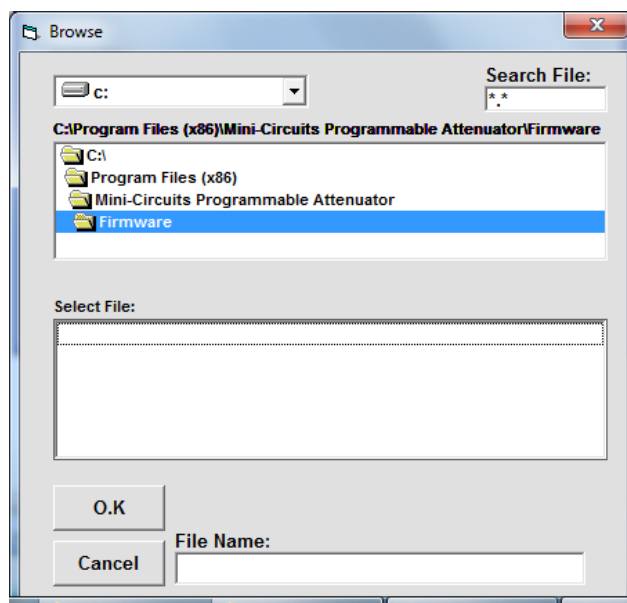

Figure 3.7.5: Firmware - Browse Window
3.7.5 **A browse window will open to the firmware directory** under the path you selected when installing the GUI program (See **Fig. 3.7.5**). Navigate to where you saved your firmware file, Select the firmware version you wish to install and click ' O.K'.